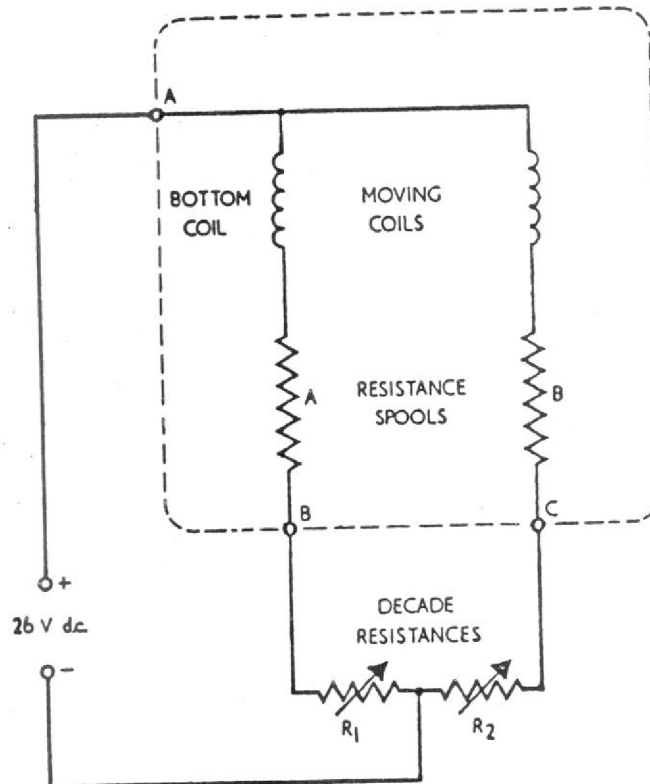

Fig.2 Calibration circuit diagram
- (1) Connect the indicator into the circuit given in Fig.2.
- (2) Check the calibration at an ambient temperature of 20°C, using the values given in the accompanying calibration table.